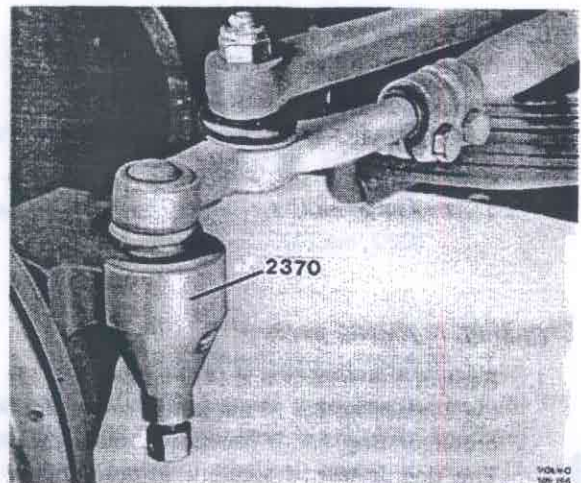

Fig. 64-31. Removing the steering joint
2. Pull loose the steering joint with puller 2370, see Fig. 64-31. Pull off the steering joint at the sector arm with puller 2148.